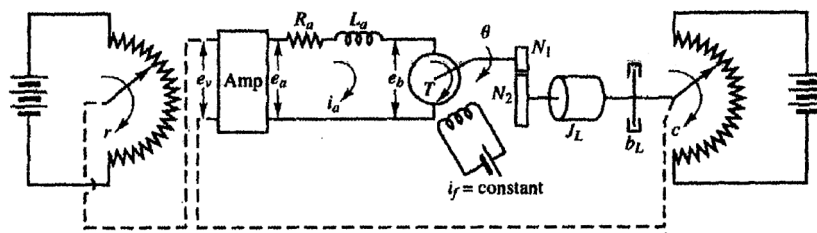

Fig. 7(b)
- (b) Obtain the closed loop transfer function for the positional servo system shown in Fig. 7(b). Assume that the input and output of the system are the input shaft position and output shaft position, respectively. Assume the following numerical values for system constants